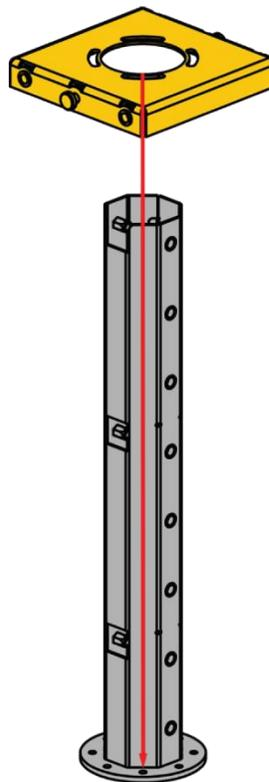

Figure 78:
- Step 4:** Slide the top plate ④ over the lower tube ③, as shown in **Figure 78**.